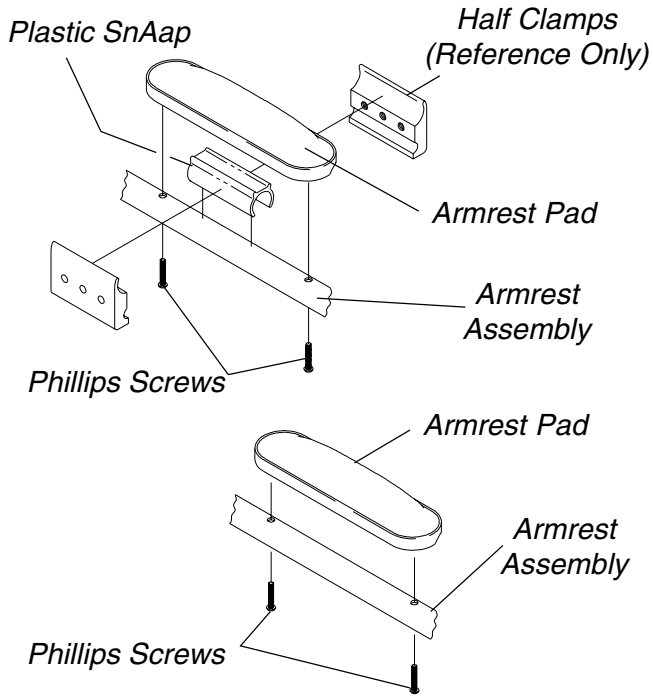

FIGURE 2 - REPLACING/REPOSITIONING DESK/
**REPLACING/REPOSITIONING DESK/FULL LENGTH ARMREST PAD/PLASTIC SNAP (FIGURE 2)**